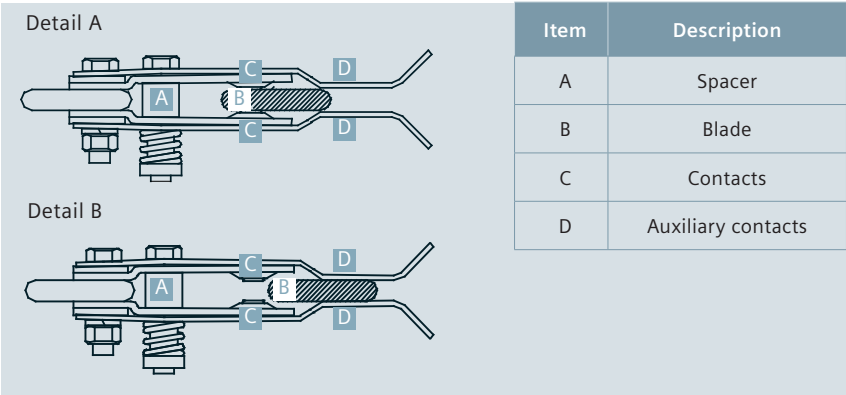

Figure 12: Blade movement
1. As the blade opens, the bottom of the blade touches the auxiliary contacts before the main blade leaves the main contacts (refer to Figure 12: Blade movement, detail A). This transfers the load from the main contacts to the auxiliary contacts. As the switch continues to open, the main contacts will part and no longer carry the load, while the auxiliary contacts carry the full load (refer to Figure 12: Blade movement, detail B).